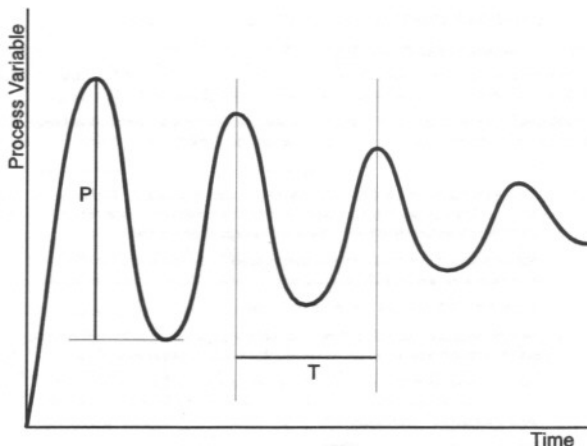

Figure 4-4 Manual Tuning Parameters (Output 1 Only)
- (a) The peak-to-peak variation (P) of the first cycle i.e. the difference between the highest value of the first overshoot and the lowest value of the first undershoot - see Figure 4-4)
- (b) The cycle time (T) of this oscillation in minutes (see Figure 4-4)